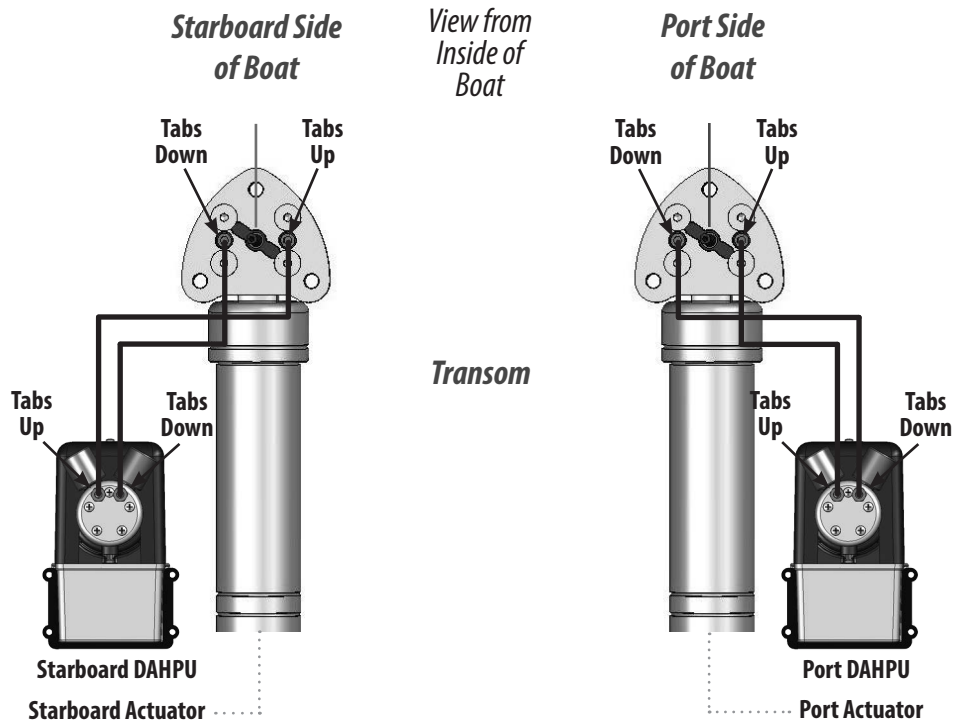
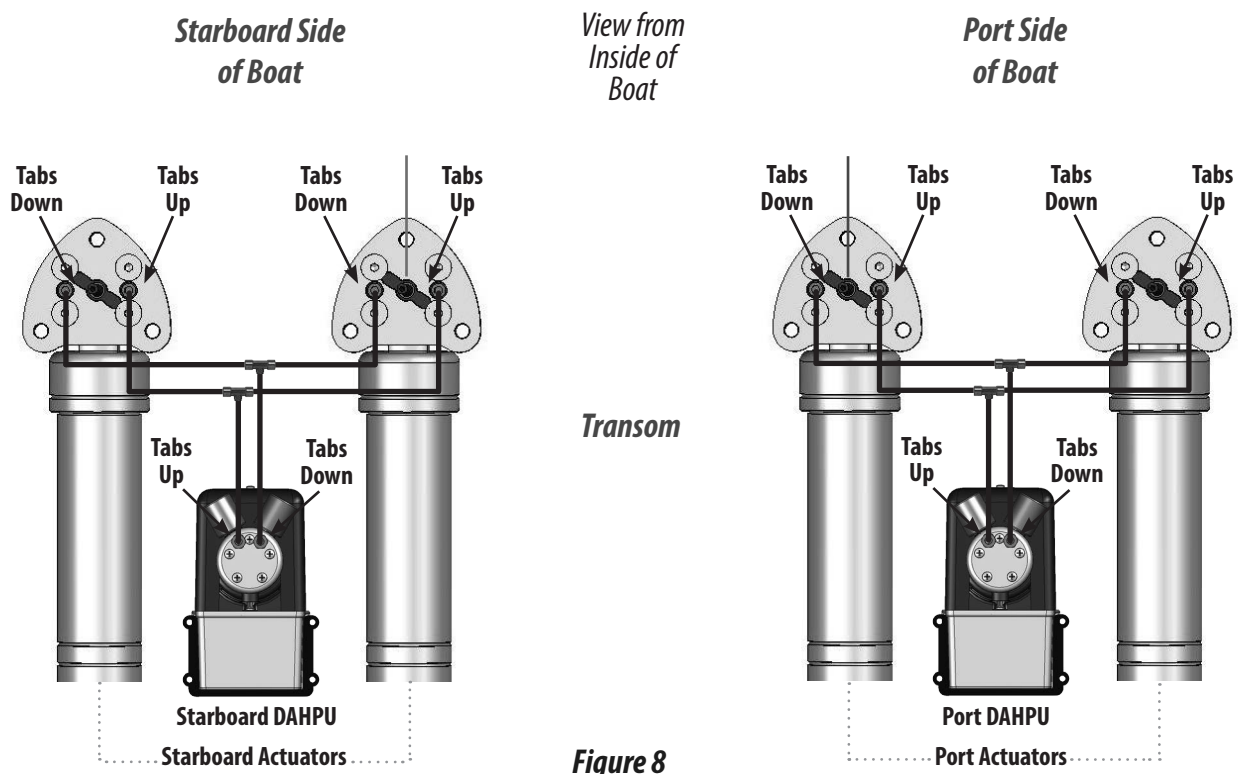

Figure 7
Figure 8
**Single Actuator System:** Run hydraulic tubing between the actuators and cut to length. Secure tubing as needed. (See next page, Figure 7 for Single Actuator Systems.) **Dual Actuator Systems:** Run tubing from the DAHPUs to the desired Brass Line-T location as shown. Secure as required. (See Figure 8 for Dual Actuator Systems) Use tube bending clips at desired 90° bends in tubing to prevent kinking.